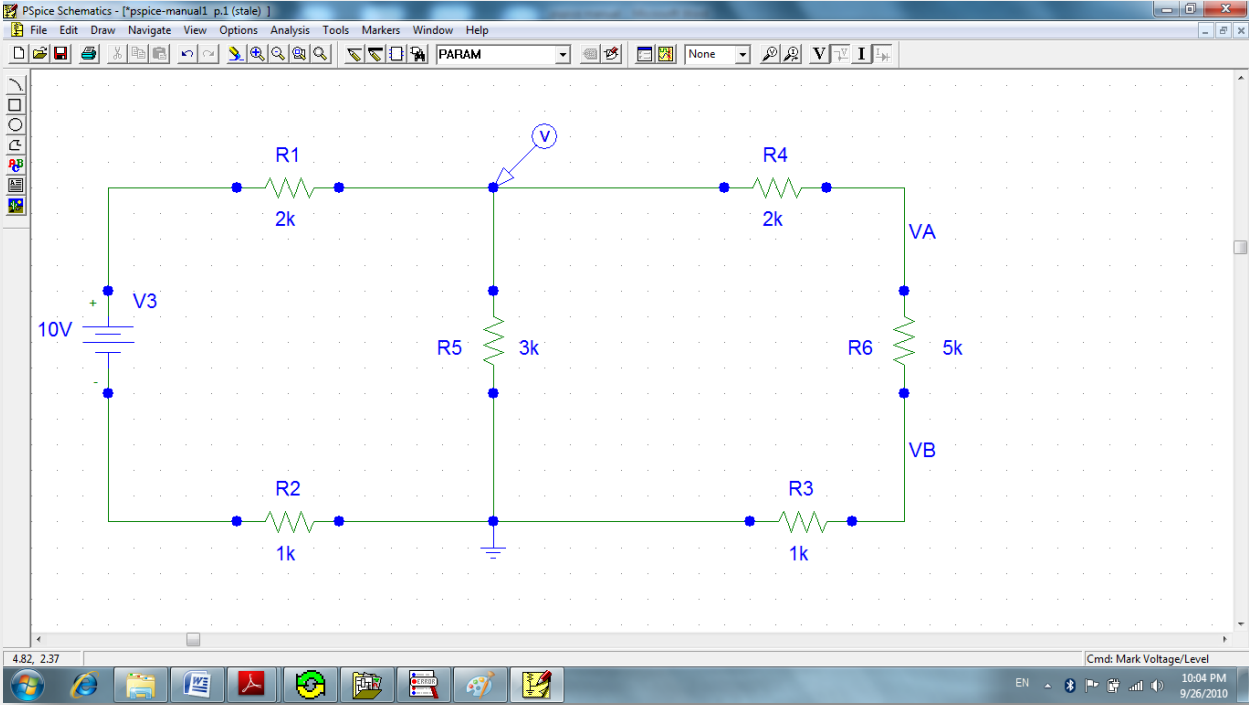

Fig.4.1.3: How to use the Voltage/Current Makers.
- 6- To display the voltage across R5 click on **Volatge/Level Marker**  and place it where you want as shown in Fig.4.1.3. You can do the same thing by clicking upon **Current Maker** .